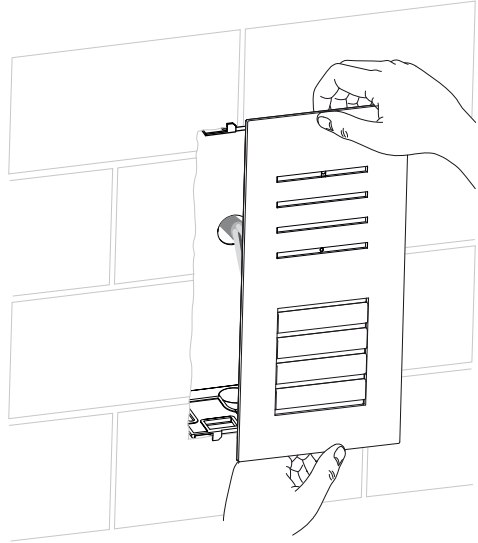

Figure 12: Insert door station
- Insert door station and press down until it clicks audibly into place simultaneously at the top and bottom if possible (Figure 12).